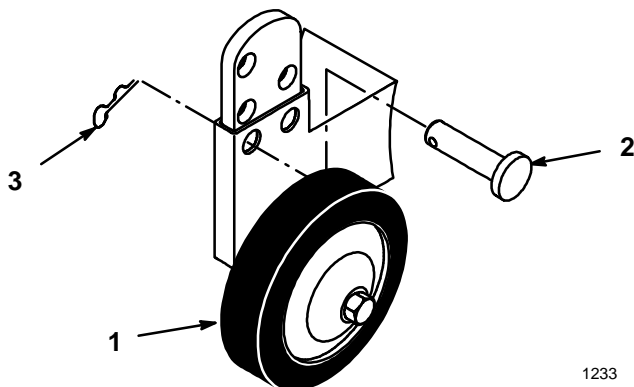

Figure 27
2. To adjust wheel height off the ground, remove the hairpin cotter and pin to change hole location (Fig. 27).
3. Select a hole position so the wheel is approximately 3/8" (9.5 mm) off the ground for the height-of-cut position to be used (Fig. 27).